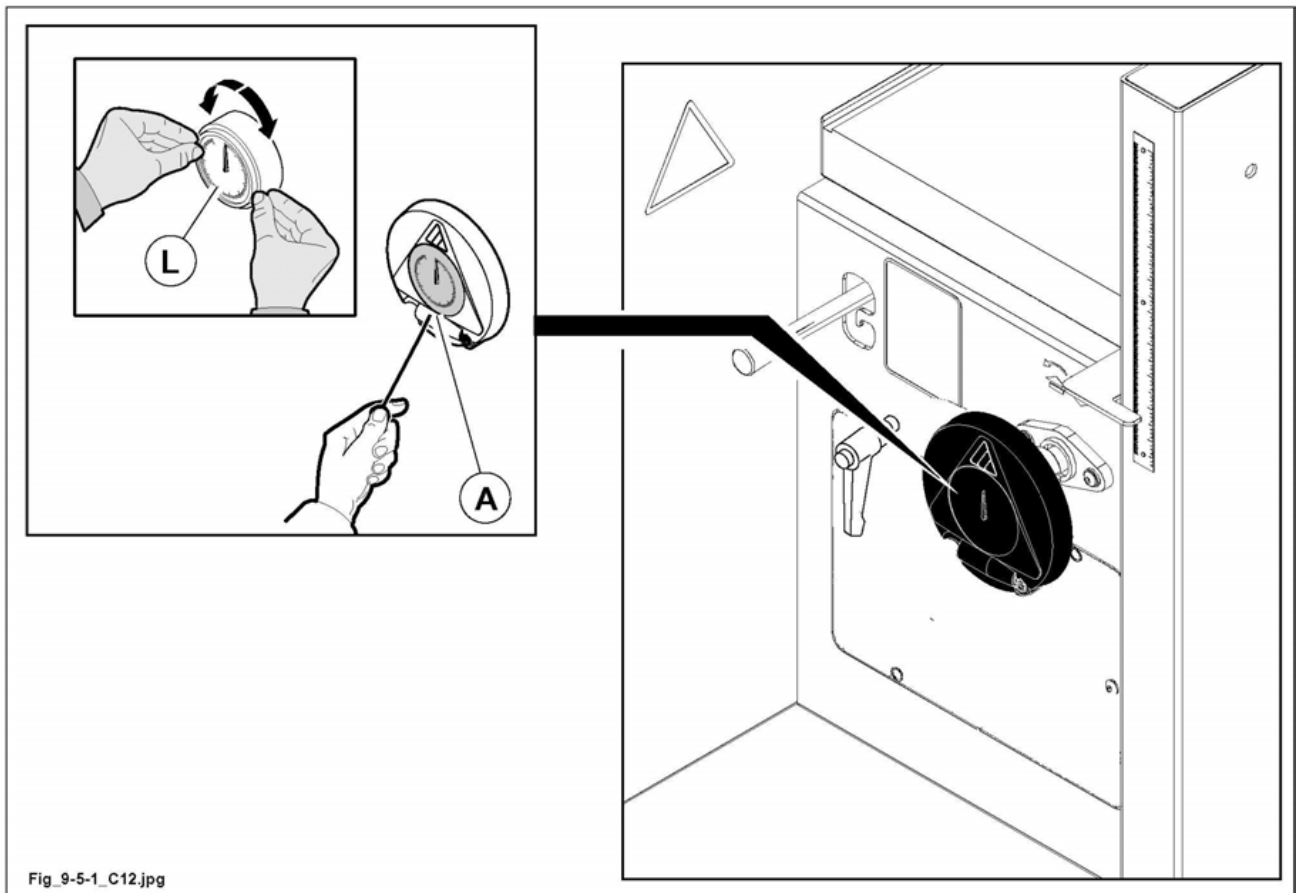

Fig. 9.5-1
If the indicator (L fig. 9.5-1) gives an imprecise indication, restore adjustments as follows.
If the indicator (L fig. 9.5-1) gives an imprecise indication, restore adjustments as follows:
- unscrew screw (A fig. 9.5-1) and remove indicator.